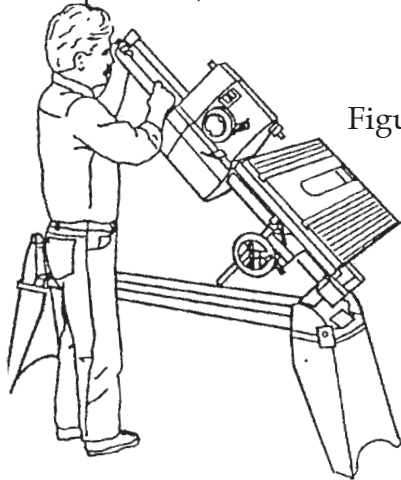

Figure C-9
4. Tighten the headstock and carriage locks. Place the Mark 7 in the vertical position by loosening the Power Base Mount knob (9), firmly grasping the way tubes (20) near the power base mount end, and lifting the tubes into the 90° position, as demonstrated in Figure C-9.